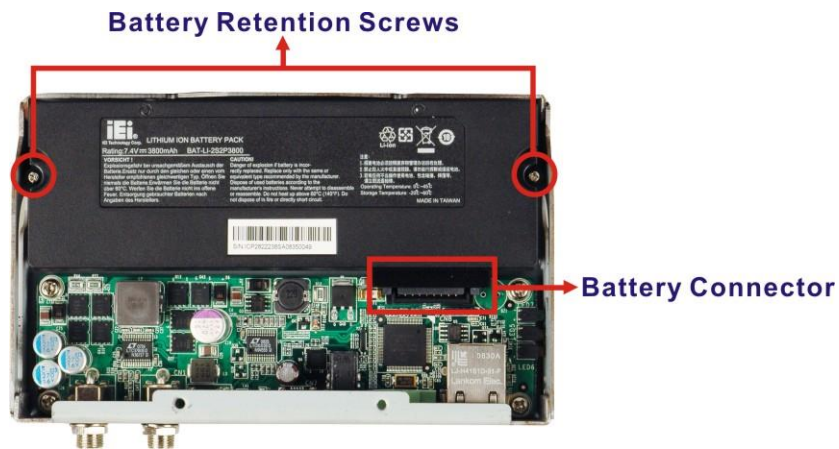

Figure 3-3: Battery Pack Installation
Step 2: Install the battery pack into the AUPS Series. Make sure the battery pack is connected to the battery connector on the board. (Figure 3-3)